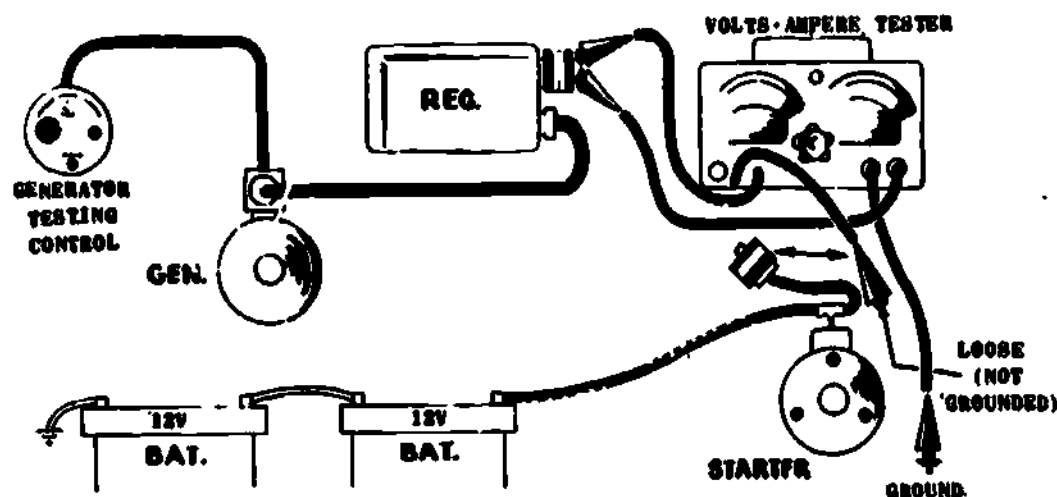

Fig 1-21. Voltage regulator test.
7. Voltage regulator test (fig 1-21). The voltage regulator limits the voltage of the charging system and protects the lights and accessories from high voltage.